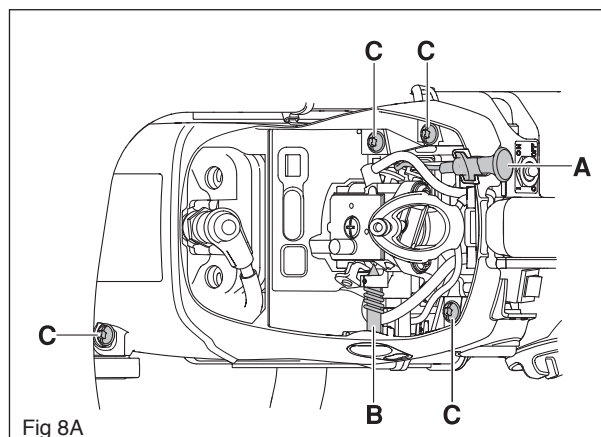

Fig 8A
Remove the T-screw (B). Detach the choke rod (A) from the cylinder cover. See figure 8A.
Fit the cylinder cover. Note! be careful not to damage the fuel hose and ignition cable when fitting the cylinder cover. See figure 8A. Screws tightening torque 3.9 - 4.9 Nm.